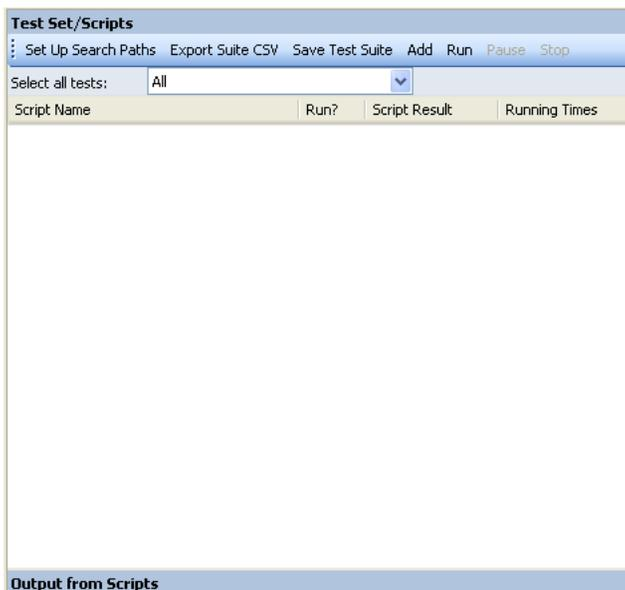

Figure 3-7. Test Set/Scripts Display Area
2. Select a Script or a Test Set and click the Open button. The selected script or test set appears in the Test Set/Scripts area of the Script Server window as shown in Figure 3-7.